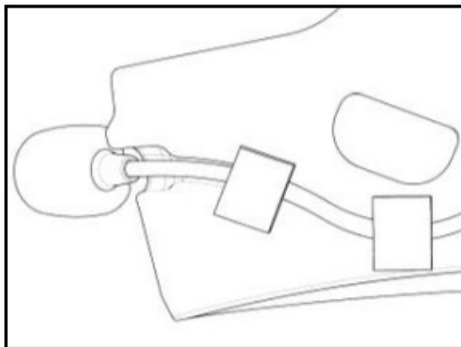
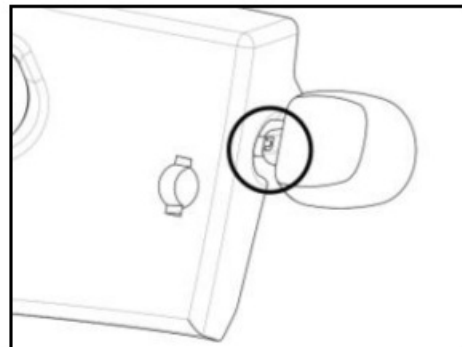

Fig. 44
Fig. 45
- Take the polystyrene cheek pad (left side) and position the microphone in the special housing, as illustrated in Fig. 44. Make sure that the side of the microphone with the caption “O” is facing the inside of the helmet (Fig. 45).
- Secure the microphone to the cheek pad using the “microphone securing stickers”, see Fig. 44.